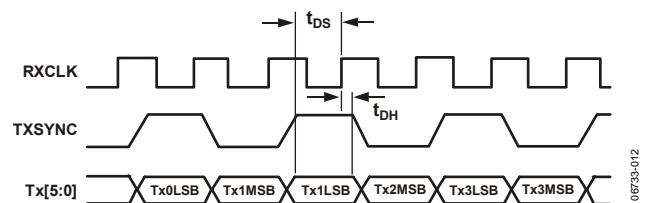

Figure 12. Tx[5:0] Port Full-Duplex Timing Diagram
3. Data from the Tx[5:0] port is read on the rising edge of this sampling clock, as illustrated in the timing diagram shown in Figure 12. Note that TXQUIET must remain high for the reconstructed Tx data to appear as an analog signal at the output of the TxDAC or IAMP.